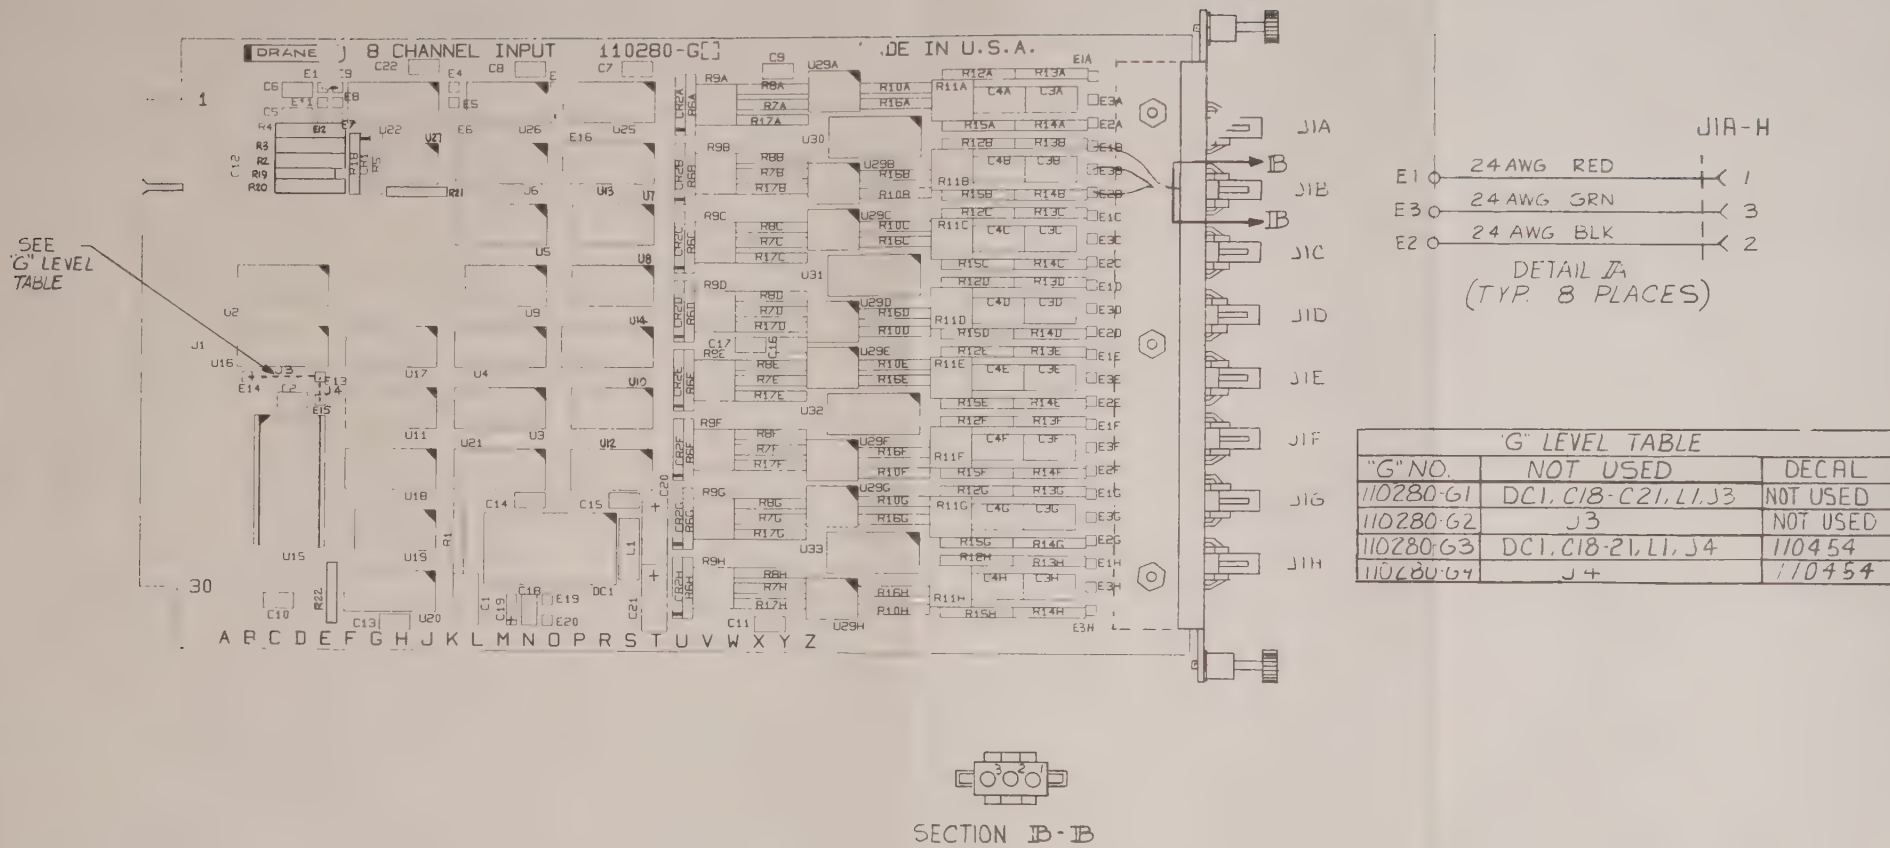
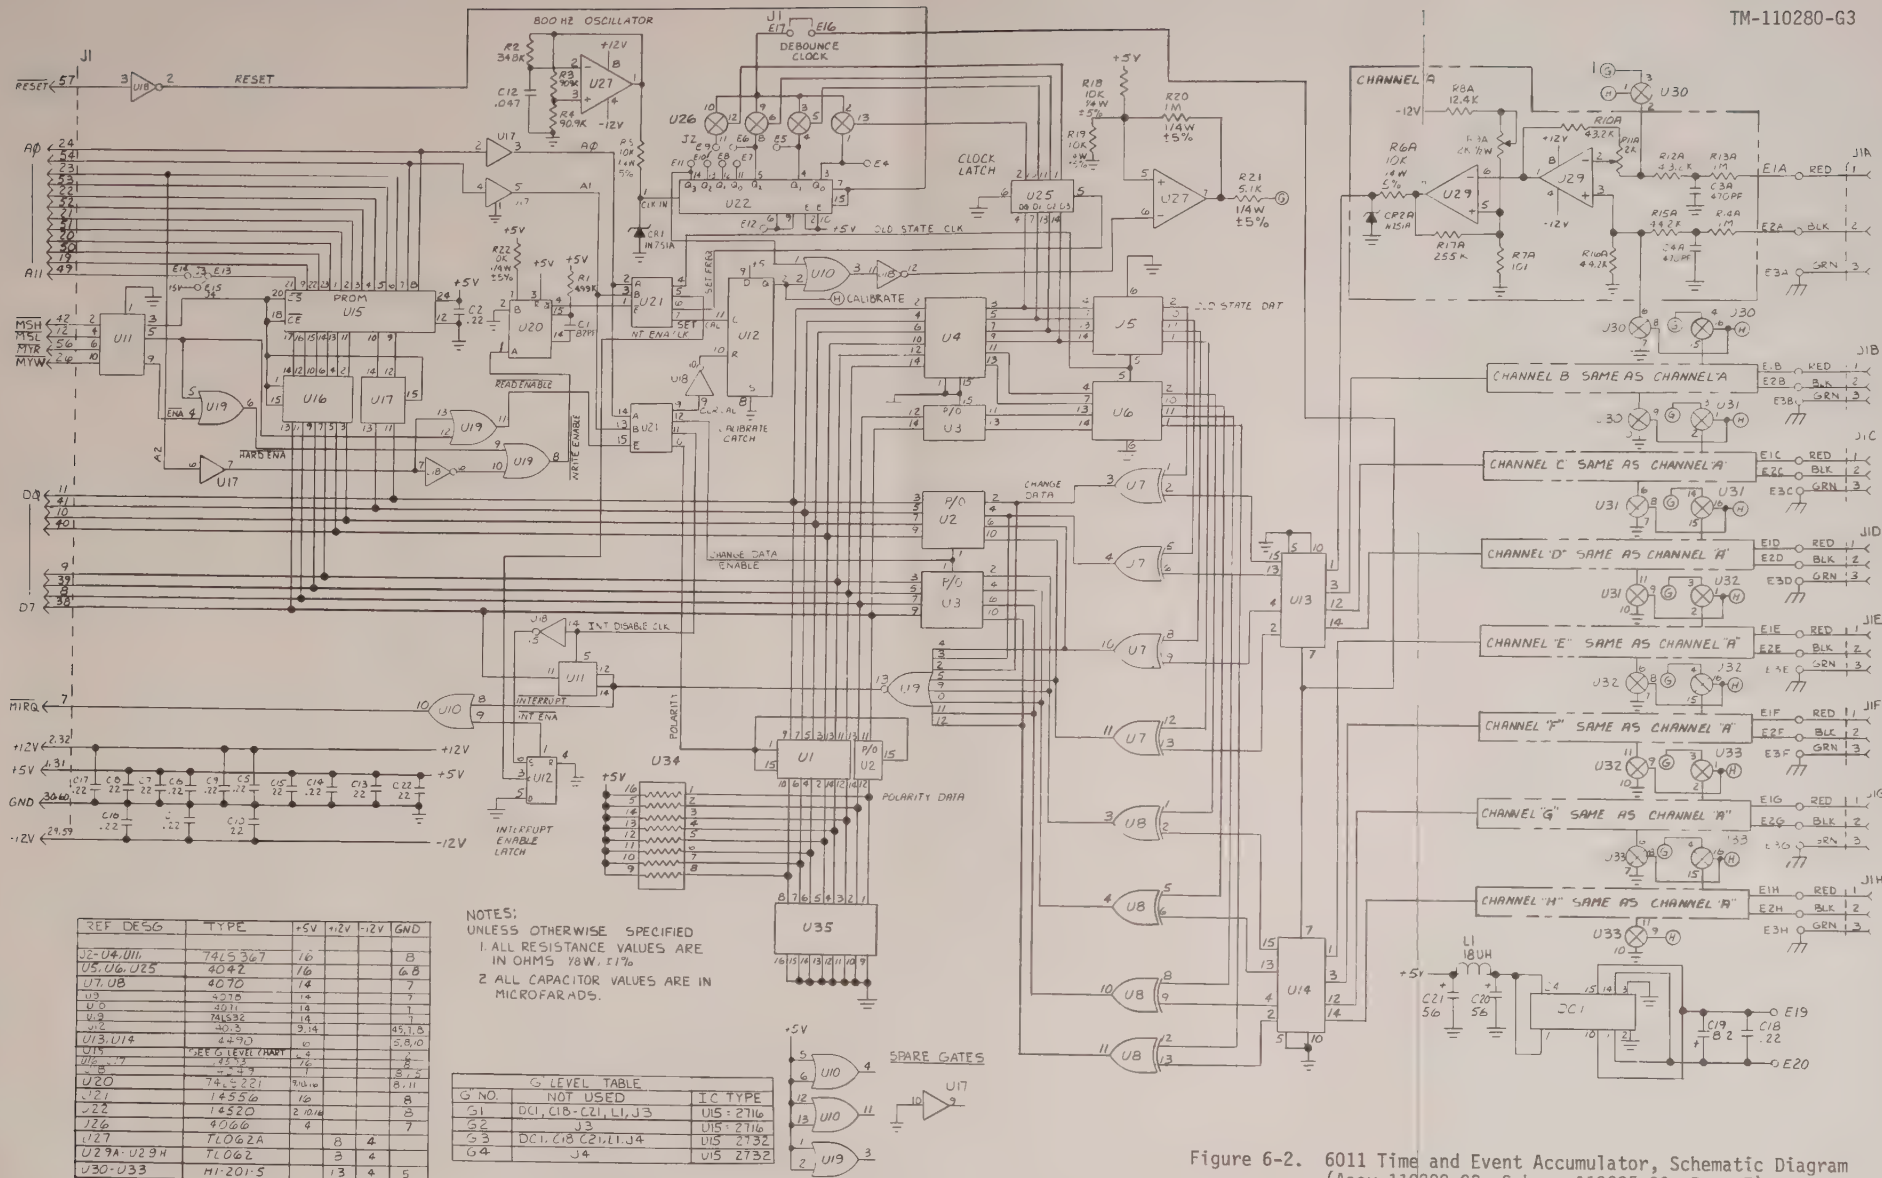

Figure 6-1. 6011 Time and Event Accumulator,
Figure 6-2. 6011 Time and Event Accumulator, Schematic Diagram (Assy 110280-G3; Schem. 110285-G3, Rev. E)
4.3 DETAILED DESCRIPTION (SEE FIGURE 6-2)
Refer to figure 6-1 for the location of the replaceable parts in the 6011 plug-in.
This section contains the schematic diagram and assembly drawing for the 6011 plug-in. The schematic diagram (fig. 6-2) supplements the Theory of Operation section; the assembly drawing (fig. 6-1) illustrates and locates the parts referenced in the Replaceable Parts List of this manual.